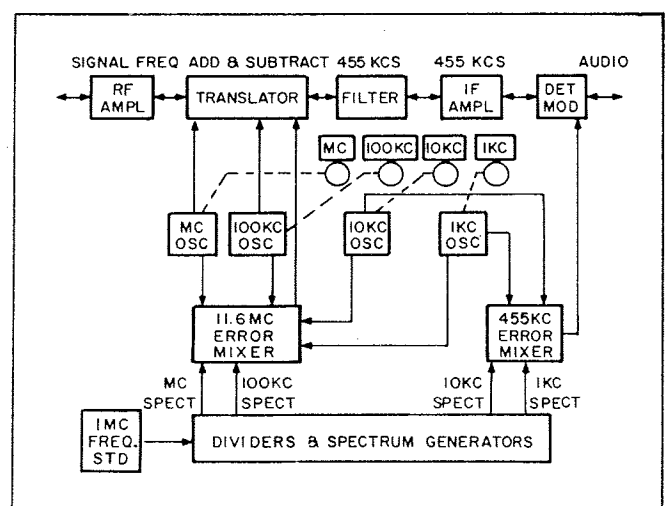

Figure 4.3 - Frequency Synthesizer Block Diagram, Illustrating Signal Flow
4.3.3 SYNTHESIZER SIGNAL FLOW. The error cancelling system, as described, illustrates the manner in which one oscillator frequency error is cancelled. In actual operation, there are four crystal oscillators, and the synthesizer has many error signal paths and many frequencies generated for its own operation. Referring to figure 4.3, the frequency standard operates at 1 MC. The dividers and spectrum generators use this